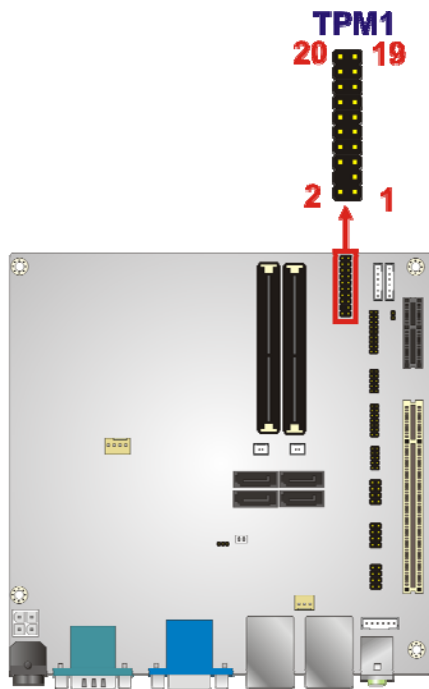

Figure 3-18: TPM Connector Location
- CN Location:** See **Figure 3-18**